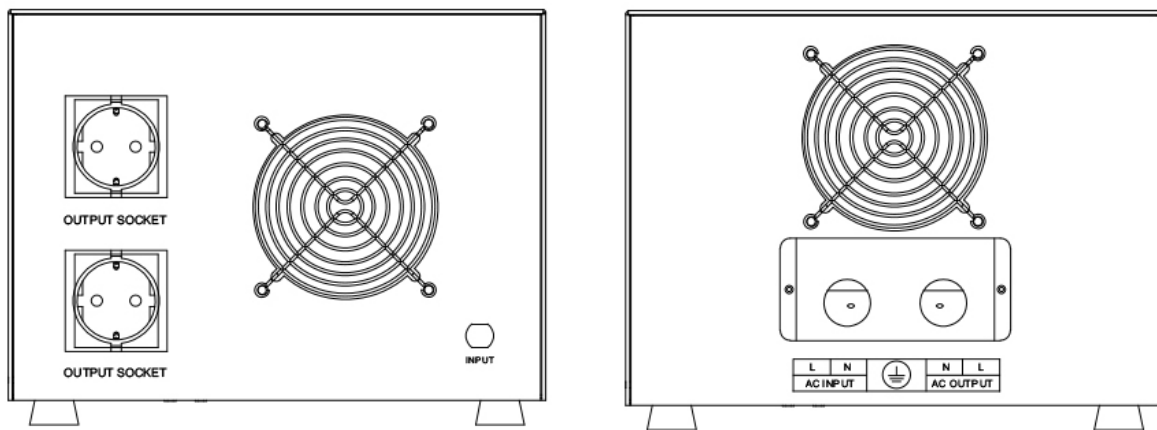

Figure 4 - Rear side
1. Single Phase models up to 2.5 KVA (see figure 4)
2. Single Phase models with power 3.5 KVA and higher (see figures 4 and 8)